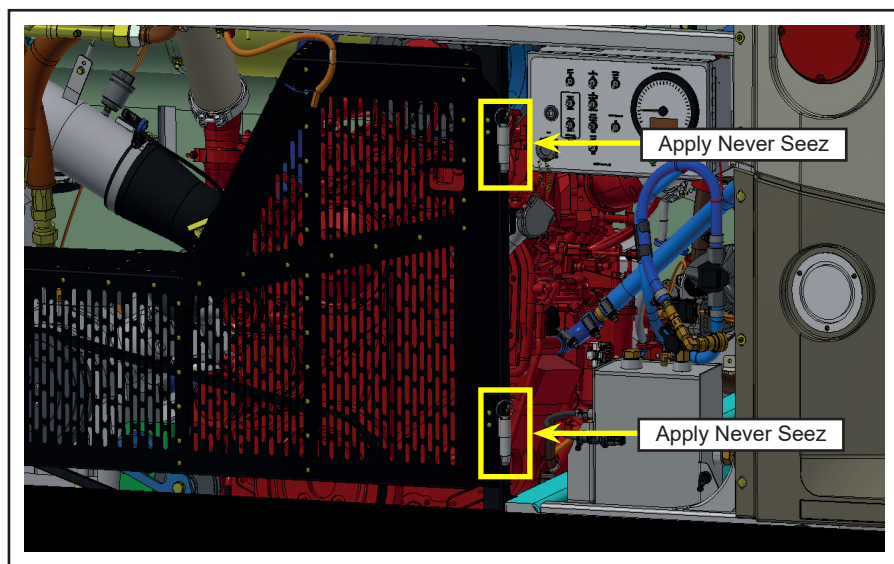

Figure 14 - Application of Never-Seez on Hinge Pin
- 1.16. Apply Never-Seez or the equivalent on both the hinge pins of hinge post (see figure 14).